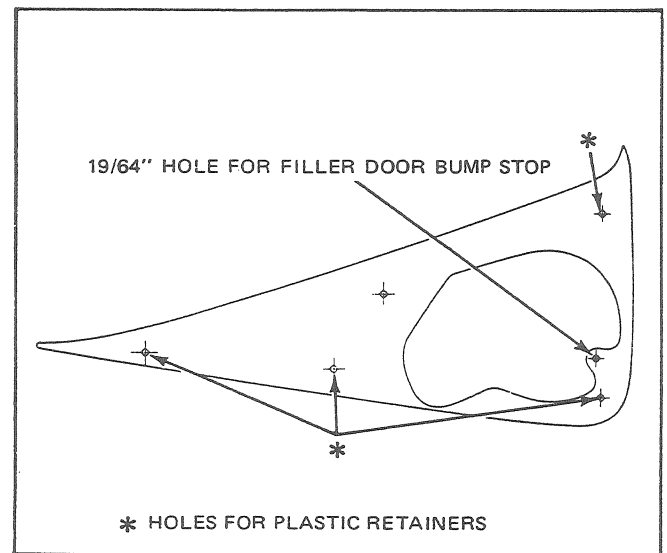

Fig. 5 - Article No. 108
20. Replace template "A" in position, mark off and drill 5 holes (1/4" dia.) for the plastic retainers and one 19/64" dia. hole for the filler door bump stop. (Fig. 5) Paint insides of all holes with body color touch-up.
21. Insert rubber bump stop for filler cap door and four (4) plastic retainers in four of the five holes. (See Fig. 5)